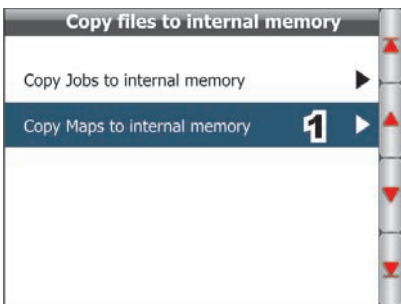

Fig. 163
- 1 Select item **Copy Maps to internal memory** (Fig. 163) and press **OK**;